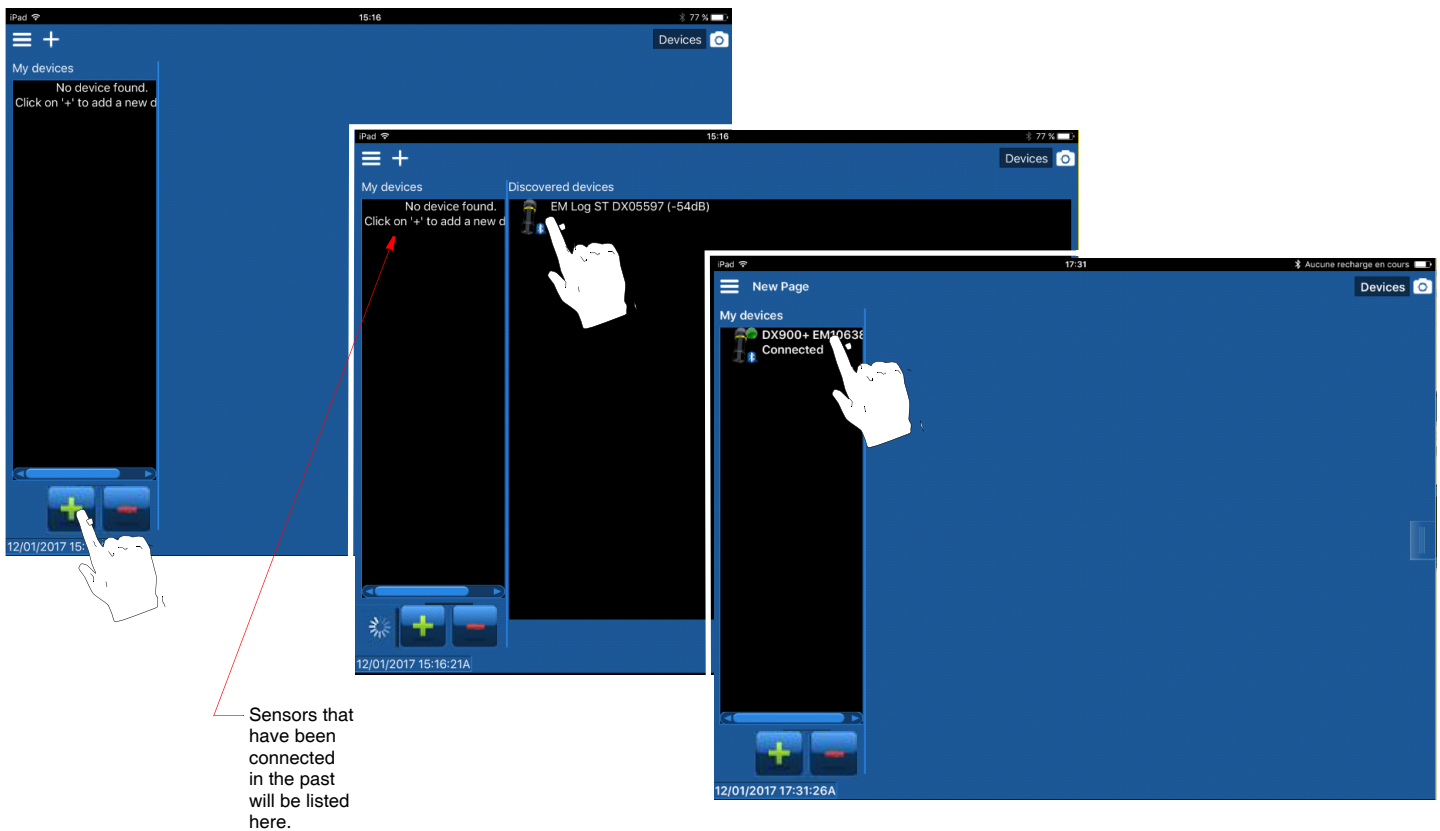

Figure 2. Adding and connecting a sensor
2. The **My Sensors** page will open (Figure 2).